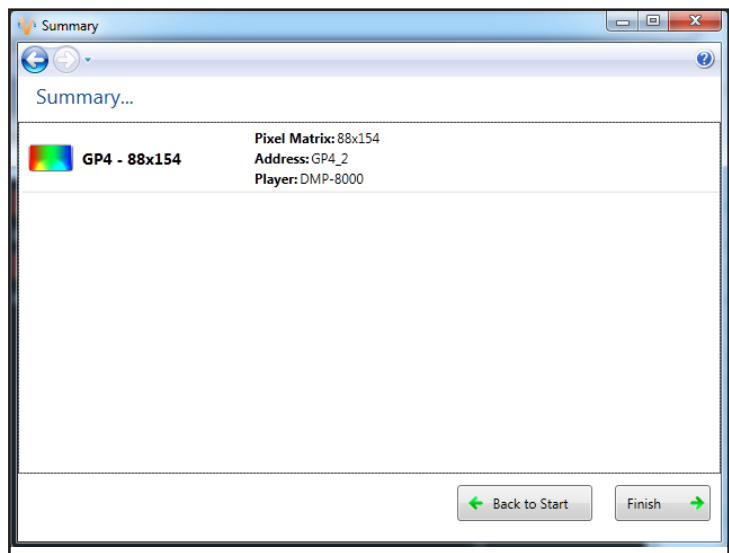

Figure 18: Display Configuration Summary Window
8. A Summary box, shown in **Figure 18**, provides basic information about the newly configured display. Click **Back to Start** to return to the beginning of the process to configure another display. Click **Finish** to complete display configuration.